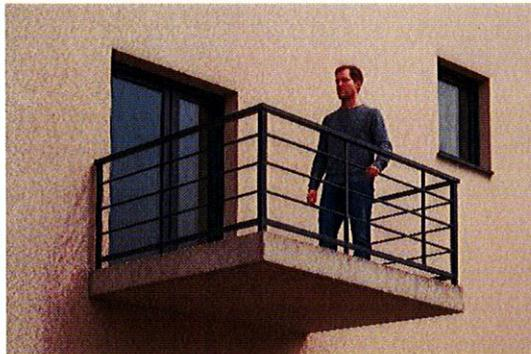

Figure 3 (c) / Rajah 3 (c)
- (c) A hanging balcony is shown as Figure 3(c) which is 4 m long and has a flexural stiffness (EI) of 20 MNm^2 . It also has a man point load of 1 kN at the free end, and the steel rail has a uniformly distributed load of 300 N/m along its entire length. Analyze the situation to determine: